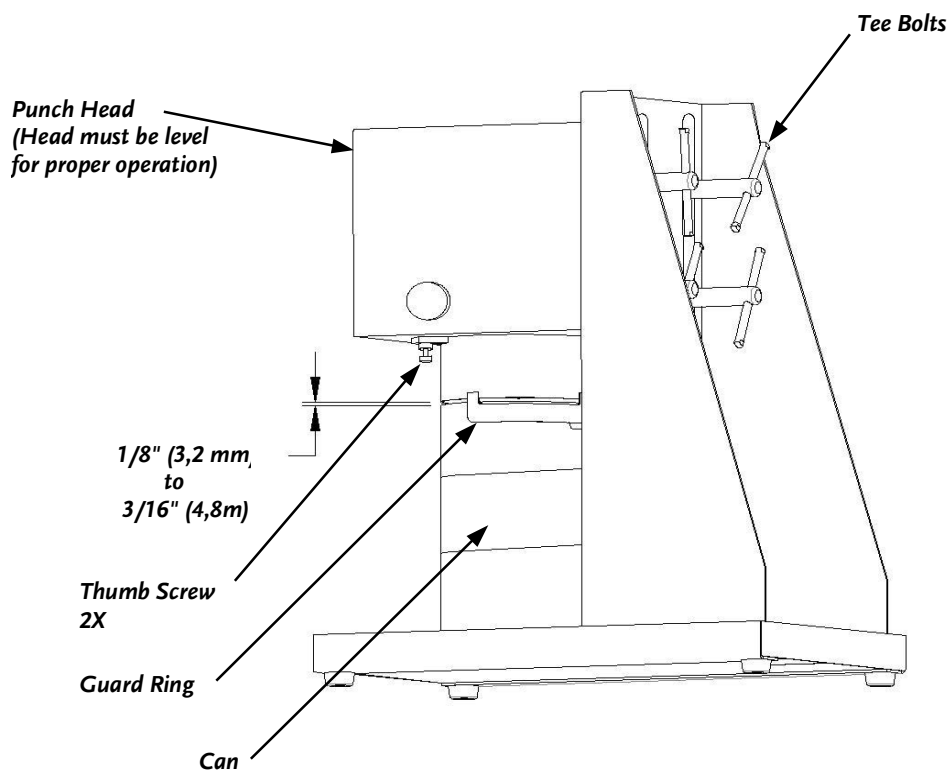

Figure 3
3. Insure the "T" handles are tight. They are located behind the head of the crown punch machine. The height, with the guard ring in place, must be such that when a can is in position under the crown punch, from the can seam to the lip of the guard ring is approximately 1/8 (3,2mm) to 3/16 (4,8mm), (**Figure 3** on page 8).
2. Loosen the four (4) "T" bolts at the rear of the vertical (**Figure 3**) and raise or lower the Head as needed, keeping the can and guard ring aligned and level.
1. With one hand, hold up on the guard ring (**Figure 3** on page 8) and with the other hand, unscrew the two (2) Thumbscrews (**Figure 3** on page 8).
Remove the splash guard, crown punch, guard ring, and retainer clip (**Figure 3** on page 8) after every use for cleaning. You may rinse down the entire machine with soap and water to remove any residue from the unit.